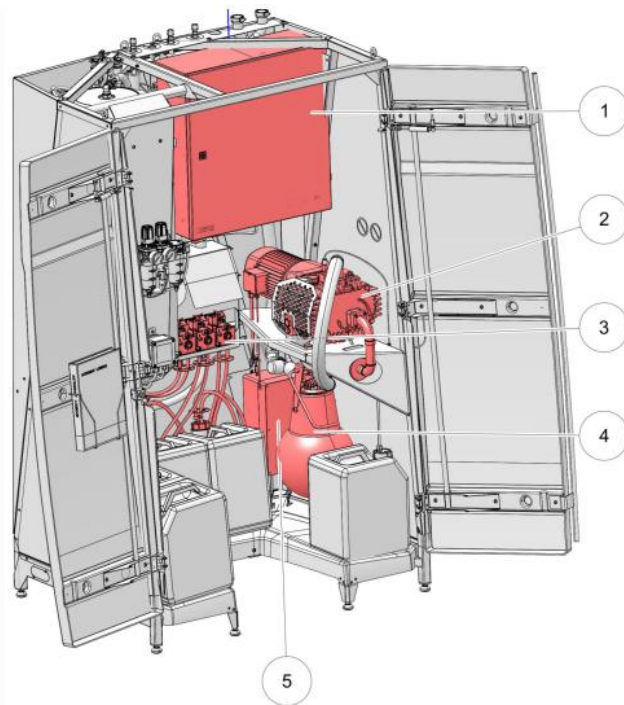

Figure 9. Central unit right side
4. Refer to figure 9 for the location of the vacuum motor
3. Refer to figure 9 for the location of the vacuum motor inside of the **Central Unit**